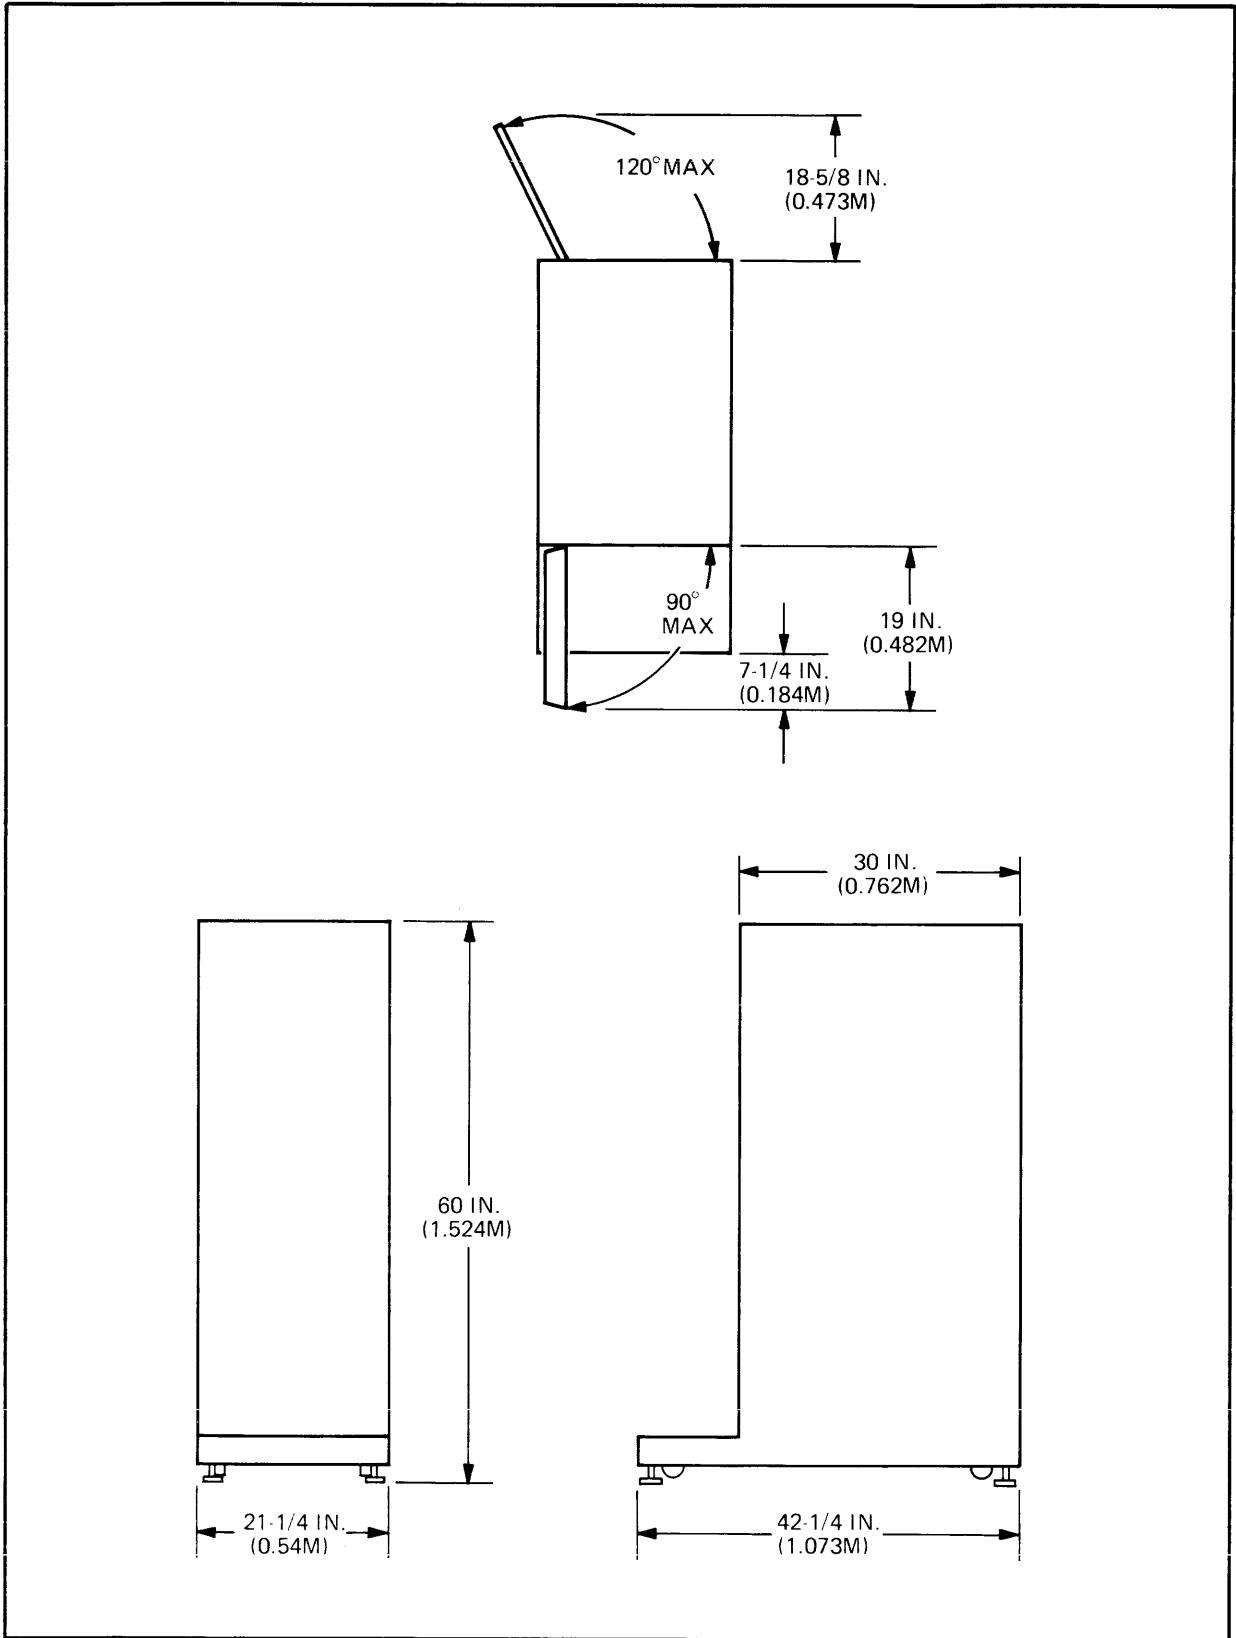

Figure 2-2. Overall Cabinet Dimensions
**Frame.** The cabinet has an all-aluminum structure, consisting of sheet metal panels attached to a supporting frame. The frame consists of four extruded columns bolted between a base plate and a top frame. The overall dimensions of the cabinet are shown in figure 2-2.
**Space.** A location for the cabinet should be selected that will afford adequate space for the doors to be fully opened. Refer to figure 2-2 for radius and angle of door swing.